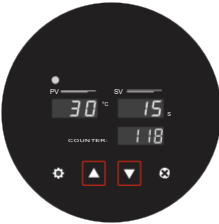

Fig. 4
4. Press Up  or Down  buttons to select the desired time in seconds (Fig. 4).